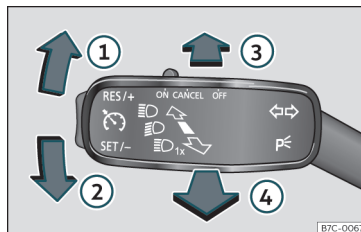

Fig. 94 Turn signal and main beam lever.
- From the base position, press the turn signal and main beam headlights lever forwards >>> **Fig. 94 ③** When the lamp  is displayed on the instrument panel display, the main beam assist is switched on.
- **OR:** while the main beam is on, pull the turn signal light and main beam headlights lever forwards >>> **Fig. 94 ④**.